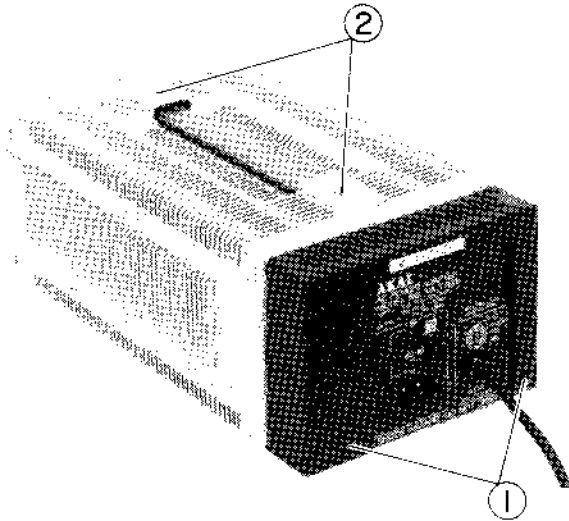

Fig. 2-1
1. Take out the two screws ① and two screws ② as shown in Fig. 2-1, then slide the top cover rearward to remove.